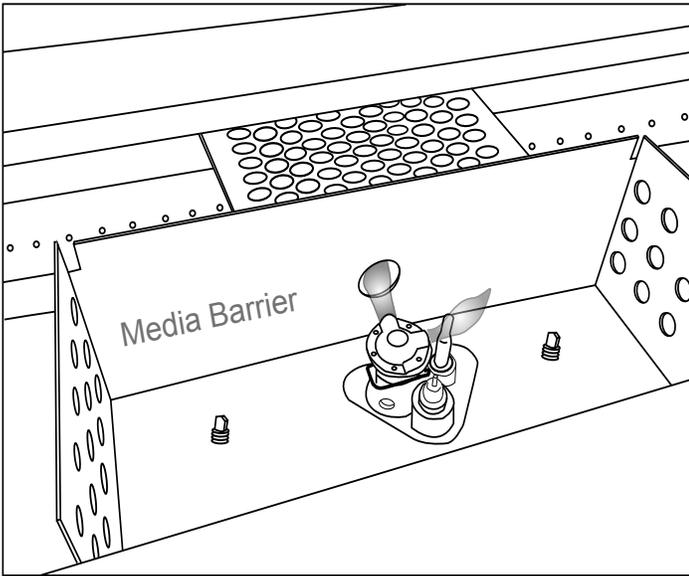
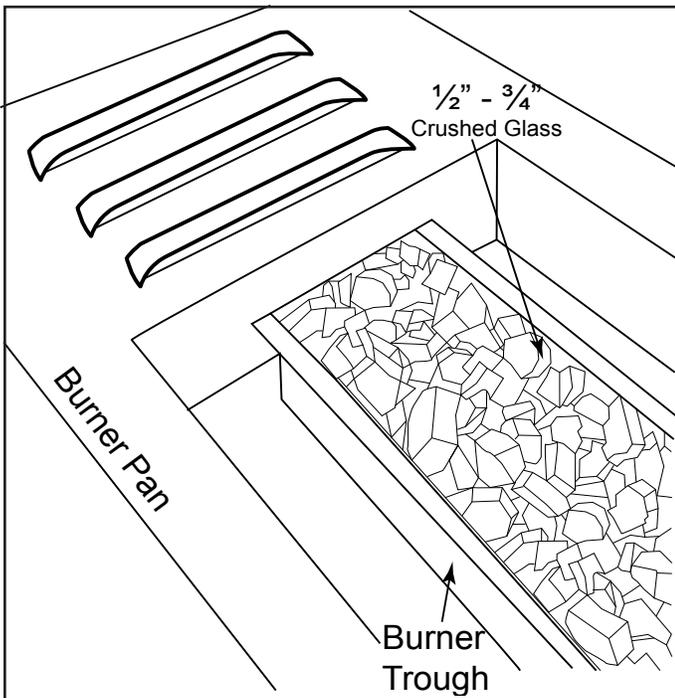

Figure 34 Proper pilot flame through ignition hole.
Figure 35 Installing media into the fireplace.
**Step 24:** Open the media box and install the glass media as shown in Figures 34 - 36. Place media fireglass into the trough area first as shown in Figure 35. Use the remaining media to fill the burner pan equally on both sides. Install only one layer over top of the ignition screen (Figure 32), just enough to camouflage it.
**Inspect Burner Flame and Pilot Flame Appearance** Periodically do a visual check of the burner flame and the pilot flame. Ensure that the burner flame appearance resembles the flame shown in *Figure 41, Page 27*. Refer to *Figure 34 on Page 24* for more information about the pilot flame appearance. Contact a qualified service technician at once if any abnormal condition is observed.